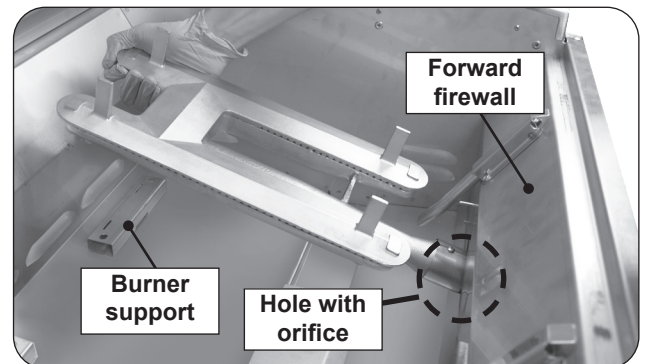

Fig. 38-3 Remove main burner
3. Carefully lift the burner from the burner support and out from the hole in the forward fire wall. See Fig. 38-3.